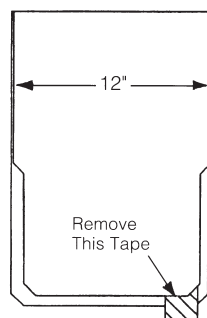

Figure 17-18: Shangle® Ridge.
5. Before nailing, be sure to remove the protective tape from the sealant between the cap's two layers (Figure 17-18).